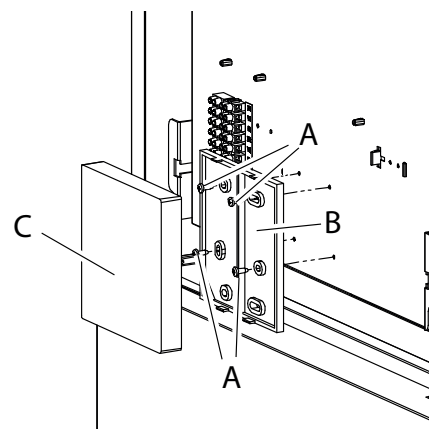

fig. 18 - Installation of the remote control
For the installation of the remote control (see C fig. 18) on the machine, proceed as follows:
- Attach the back cover (see B fig. 18) of the remote control using the 4 screws (see A fig. 18) pre-mounted on the electrical panel.
- Hook the remote control (see C fig. 18) to the back cover (see B fig. 18) using the appropriate snap pins.